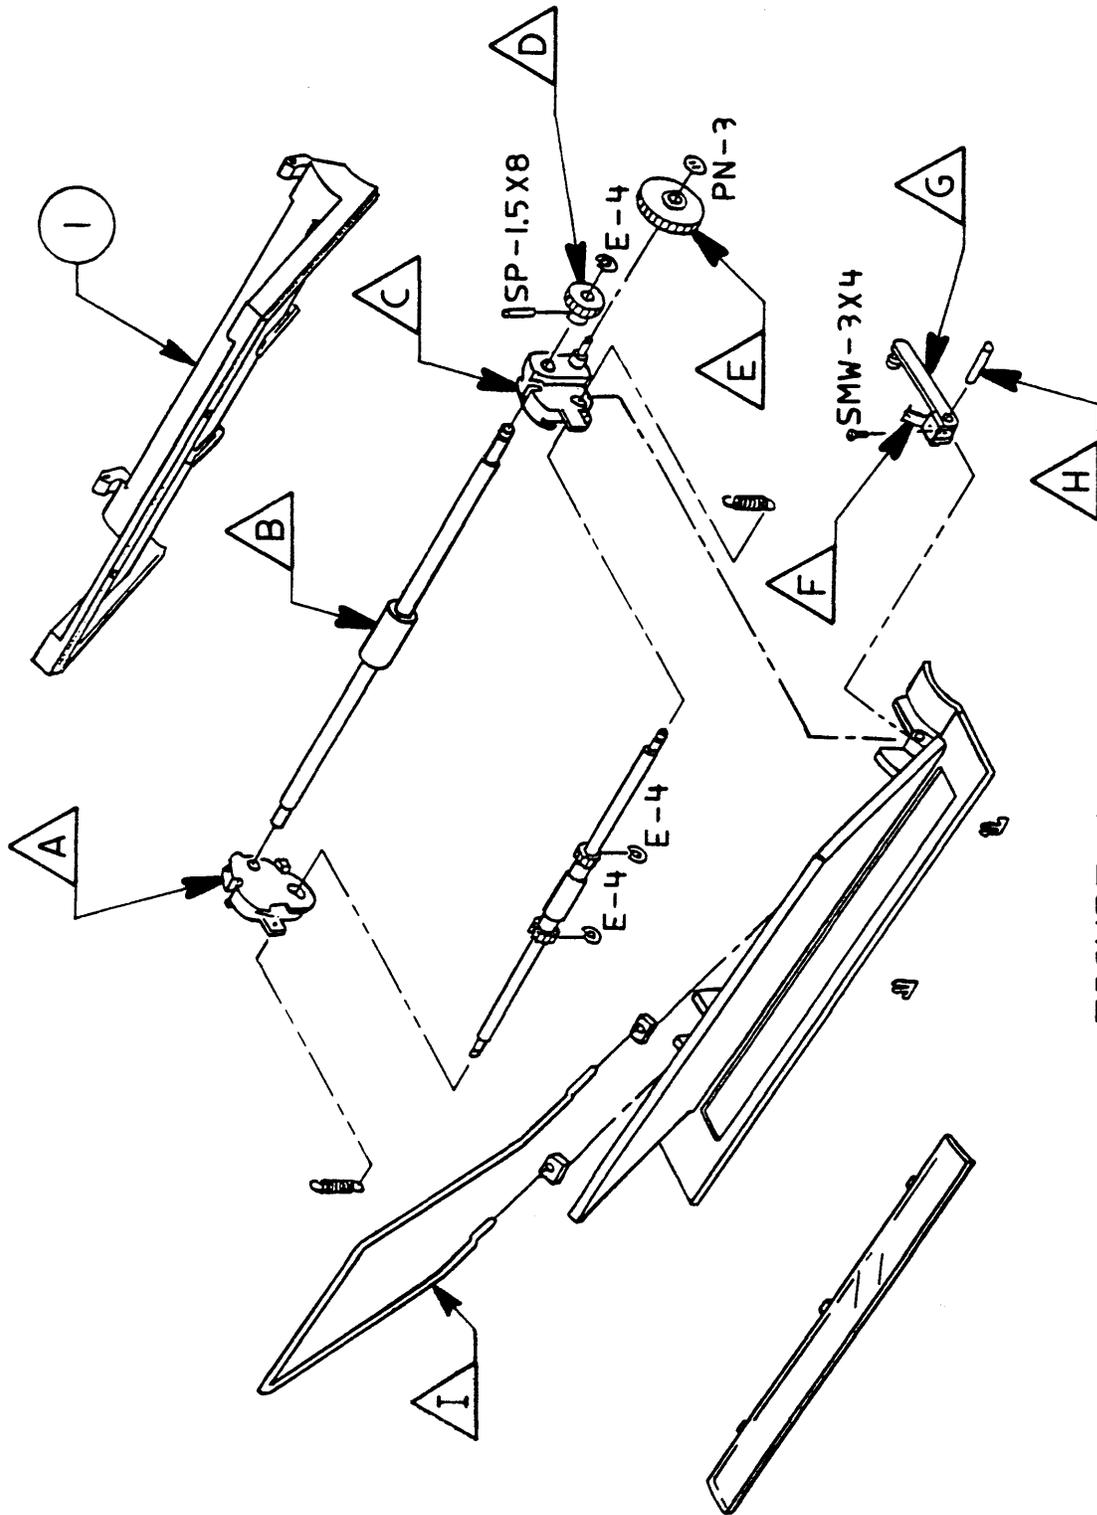

FIGURE 4
- IPL.9 Paper Tray Assembly (Figure 4)
076-0242	SheetFeeder Paper Tray Assembly, Platinum (See Figure 4.)
□ PAPER TRAY ASSEMBLY (Figure 4)